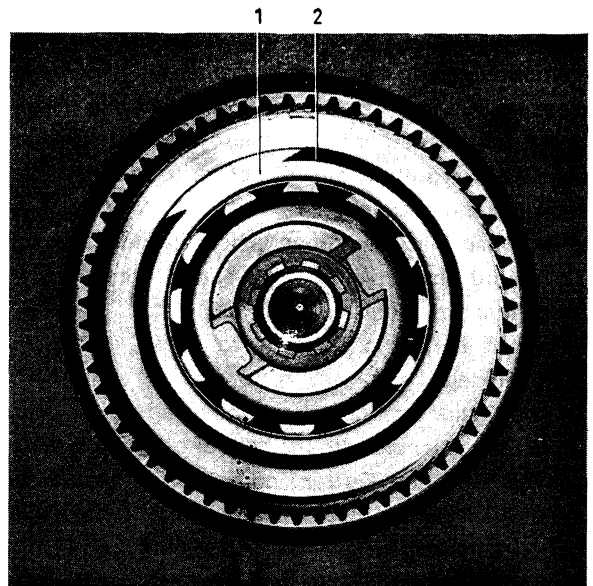
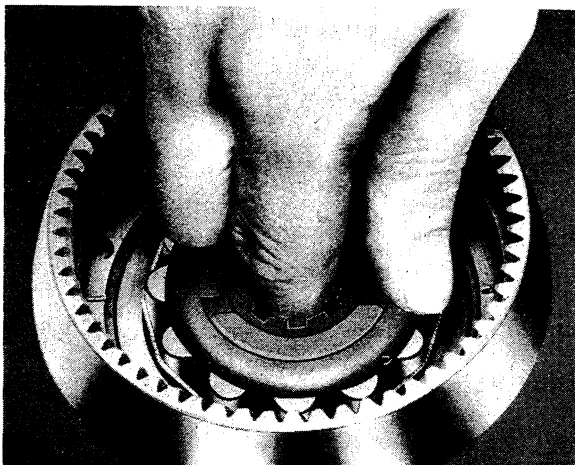

Fig. 4-47. Fitting oil thrower
Fig. 4-46. Fitting uni-directional clutch
6. Fit the thrust washer and then the uni-directional clutch in position on the output shaft, see Fig. 4-46. Fit the oil thrower and install the circlip, see Fig. 4-47.